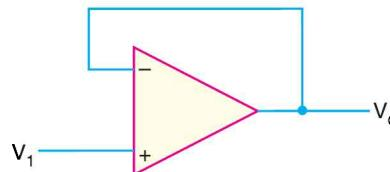

Fig. 25.107
14. What output voltage results in the circuit of Fig. 25.107 for  $V_1 = +0.5 \text{ V}$ ?  $[V_o = 0.5 \text{ V}]$